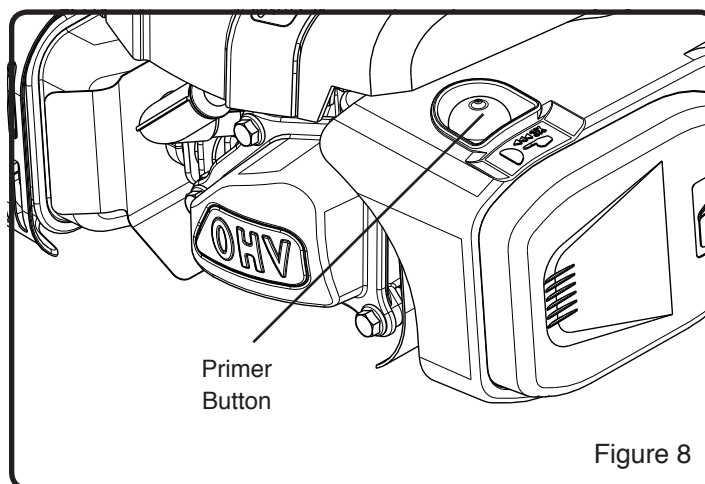

Figure 8
2. Push the Primer Bulb 3 times, waiting 2 seconds between each push. (See Figure 8)